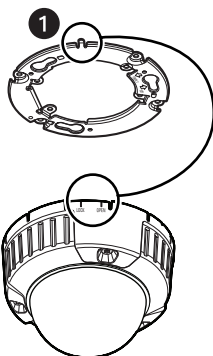

Figure 26. Attaching the Camera to the Camera Attachment (Flush Mount)
- a. Attach the camera onto the camera attachment while aligning the OPEN mark on the camera with the protrusion on the camera attachment (refer to Figure 26).